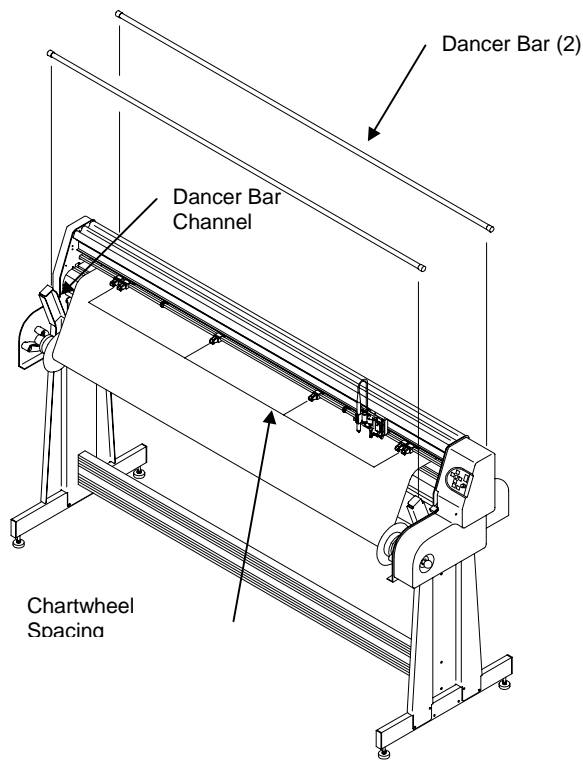

Figure 17. Installing the Dancer Bars
18. The two remaining chartwheels should be evenly spaced along the width of the paper. Slide the two inner chartwheels to positions that result in an even spacing. (See Figure 17)